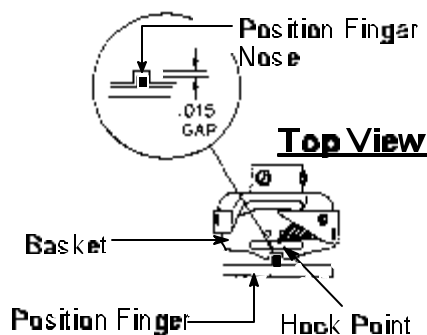

Figure 1
4. **Move** Position Finger **left or right**, centering Position Finger Nose with needle. See Figure 1.